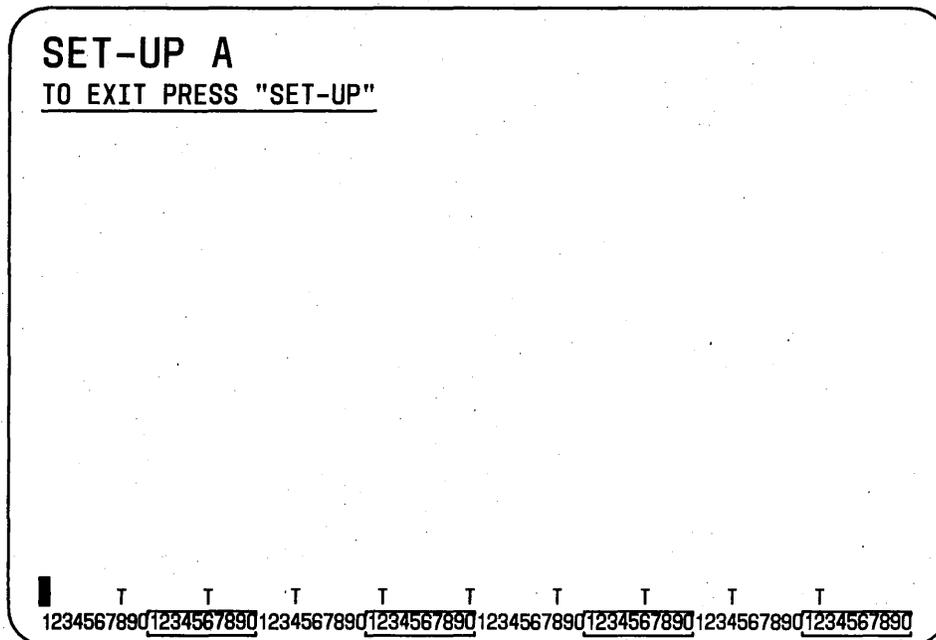

Fig. 25—Setup A Mode Presentation
2a	If Generic 1, or if the special Generic 2 keycaps are not provided— Depress SET-UP key. Display shown in Fig. 25 is displayed.
4b	If the special Generic 2 keycaps are provided— Remove the SET-UP key and pull the lockout from the key. Replace the SET-UP key and depress it. Display shown in Fig. 25 is displayed.
- 19 Depress SET-UP key. Display is shown in Fig. 25.
Depress the SHIFT and S keys simultaneously. Display disappears, then **Wait** is displayed in the upper-left corner. After **Wait** disappears, Fig. 25 is displayed.
21d	If setup features are to be recalled— Depress the SHIFT and R keys simultaneously. Display disappears, then Wait is displayed in the upper-left corner. After Wait disappears, Fig. 25 is displayed.